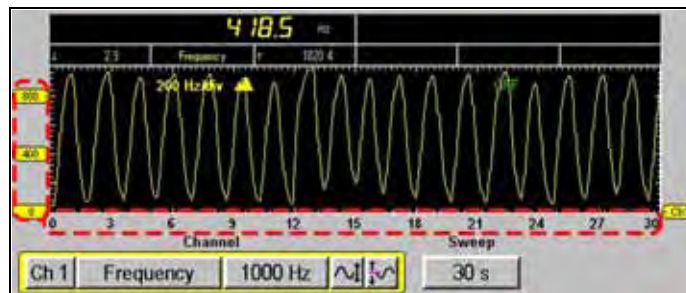

Figure 4-45 Scales Display menu selection sample
- Select **Tools > Scales Display** (Figure 4-45).
The scale values appear along the X (horizontal) and Y (vertical) axis of the graph (Figure 4-45).